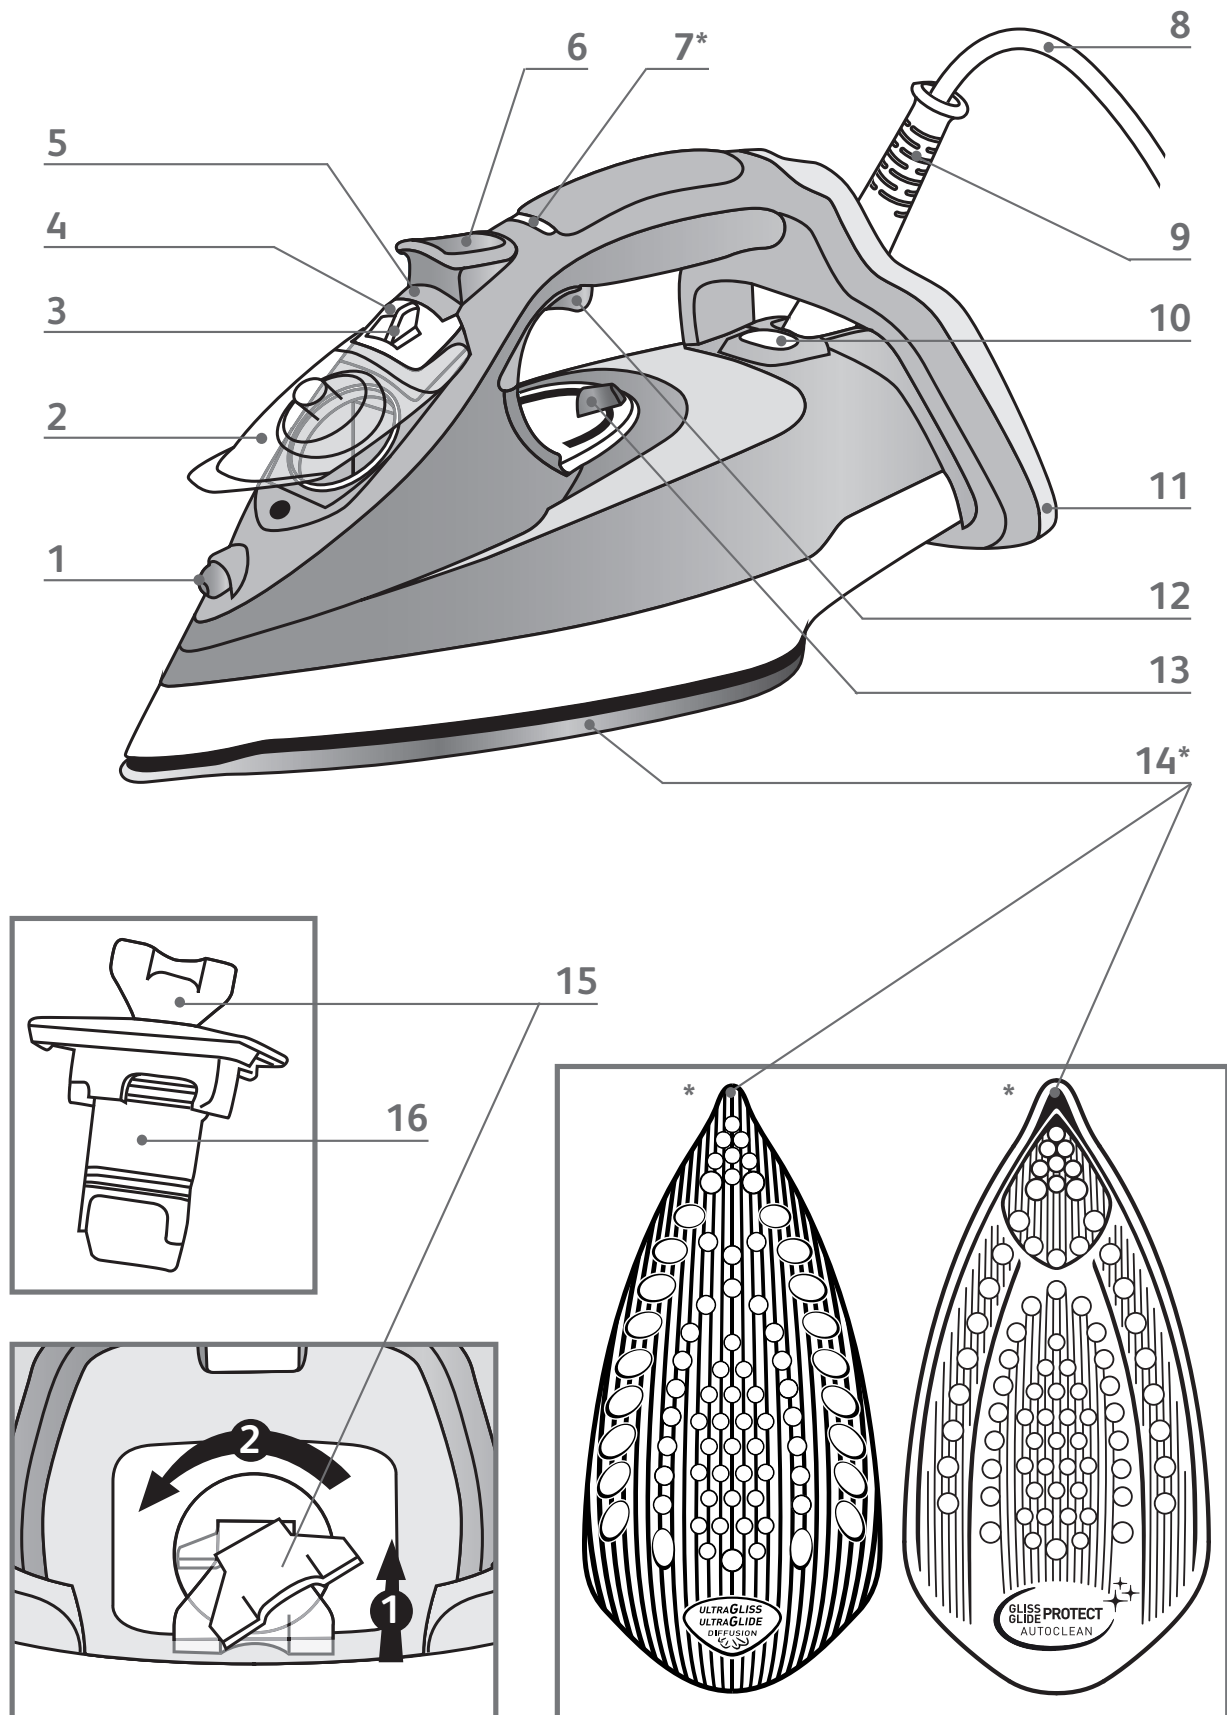

fig.1
- Set the steam control to  – fig.1.